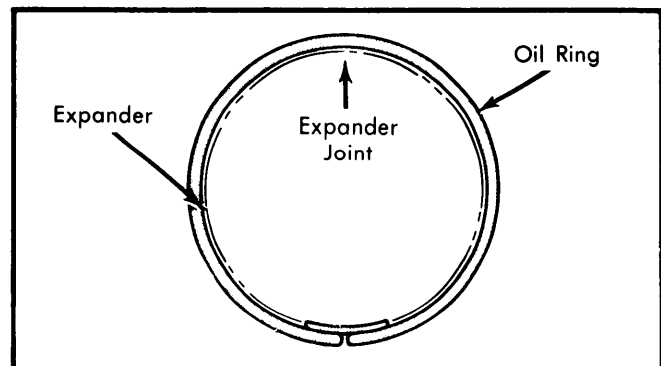

Fig. 10 Oil Ring &amp; Expander Location
4) Install rings with "UP" side toward top of piston. On expander oil ring, install expander as shown in Fig. 10.